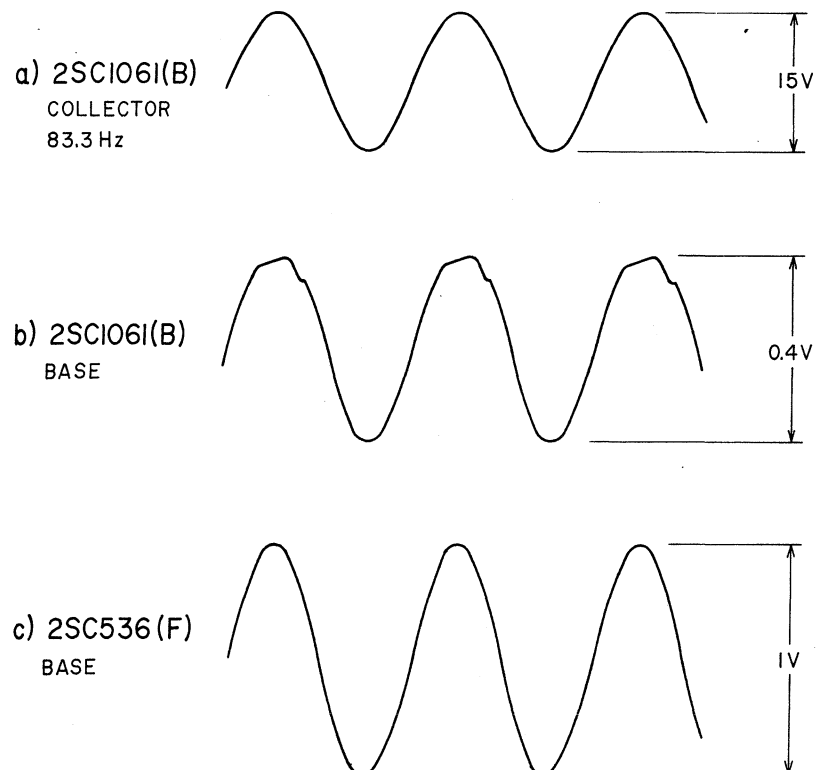

Fig. 1-47 C.M.D. (PX-507) Waveforms
(2) Adjustment of Capstan Motor Revolutions
- a) Connect a frequency counter to transistor 2SC 1061 (B) Collector of capstan motor drive circuit and adjust VR-3 so that frequency counter indication is $83.3 \pm 0.1\text{ Hz}$.
- b) Connect an oscilloscope to transistor 2SC 1061 (B) Collector and confirm that the collector waveform is as shown in fig. 1-47 "A" (there is very little distortion at negative peak, and waveform fluxuation is also very small).